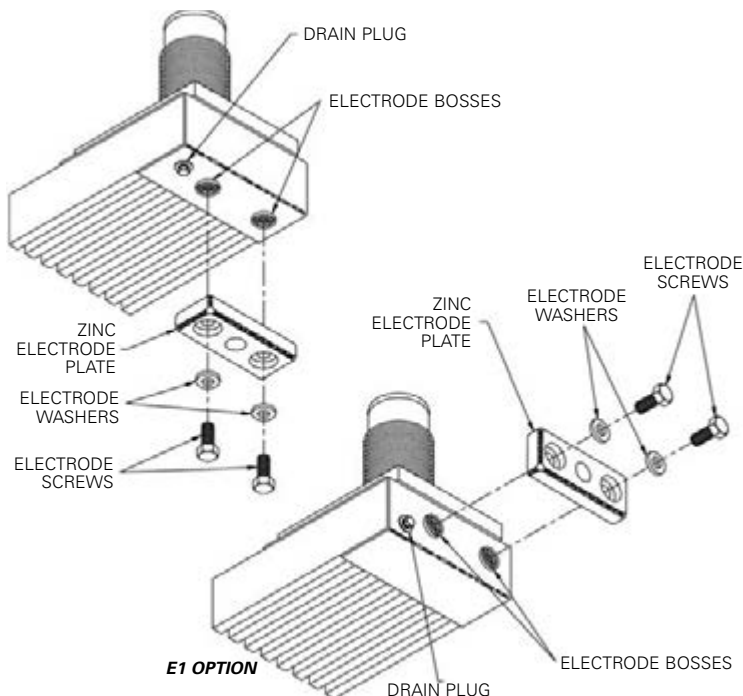

FIG. 11 Zinc Attachment Detail
2.3.4 Attach the zinc electrodes using the special bolts and washers supplied with the unit. They can be found in a cardboard box inside the unit shipping box. See Figure 11.